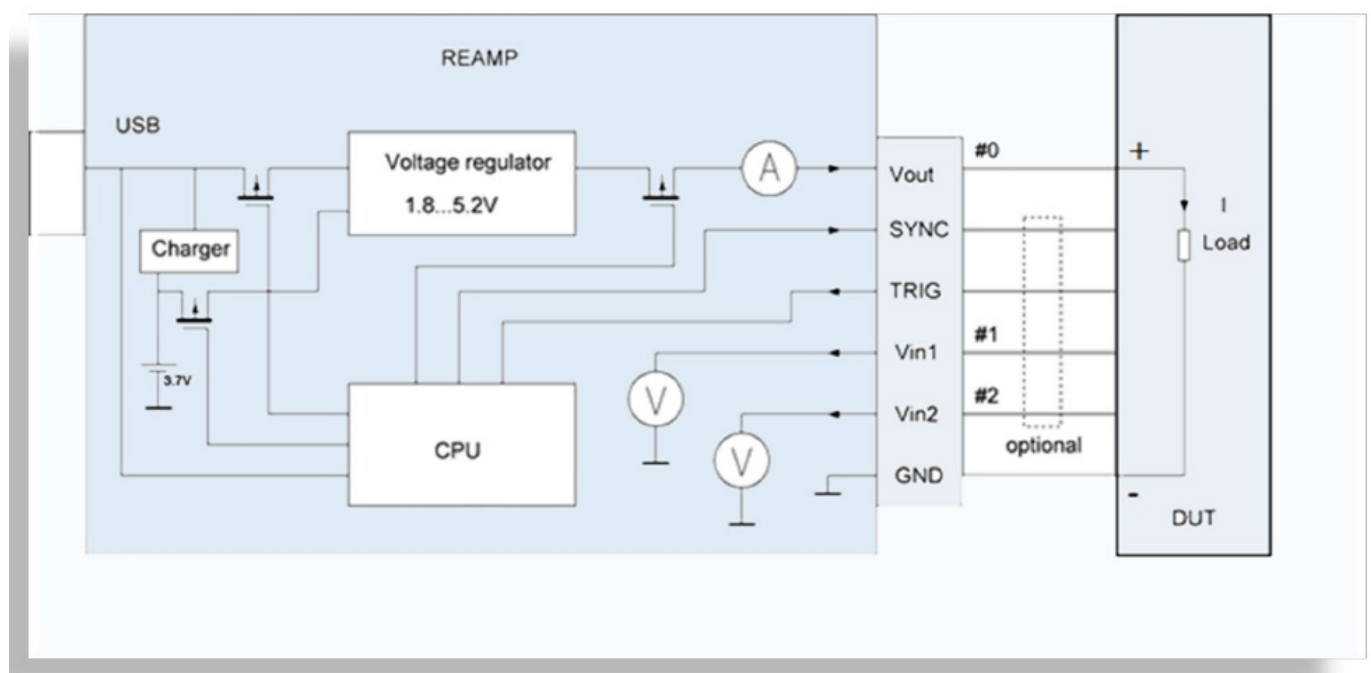

FIGURE 2.1: FUNCTIONAL AND CONNECTION DIAGRAM
The functional and connection diagram of the REAMP device is shown in Figure 2.1.
A 6-position connector (Fig. 2.1) on the REAMP front panel is connected to the DUT by test probes included in the kit.
- Connect the DUT to REAMP as shown in diagram (Fig. 2.1.)